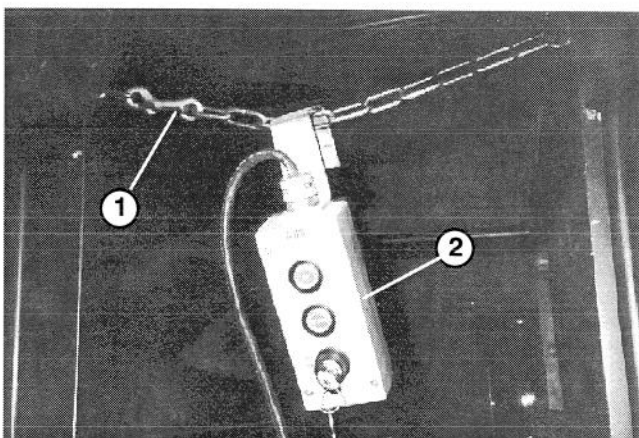

Figure 18
3. Climb into platform and secure safety chains across entry (Fig. 18).